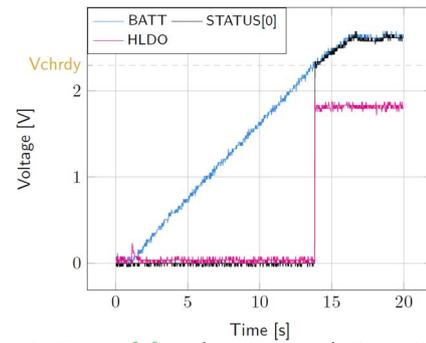

Figure 3: STATUS[0] and HVOUT evolution with BATT
- BATT: Voltage rises as the power provided by the source is transferred to the storage element (see Figure 3).
- HVOUT/LVOUT: Regulated when voltage on BATT first rises above V_{CHRDY} (see Figure 3).
- STATUS[0]: Asserted when the LDOs are ready to be enabled (refer to the AEM10941 datasheet “Normal Mode” section) (see Figure 3).